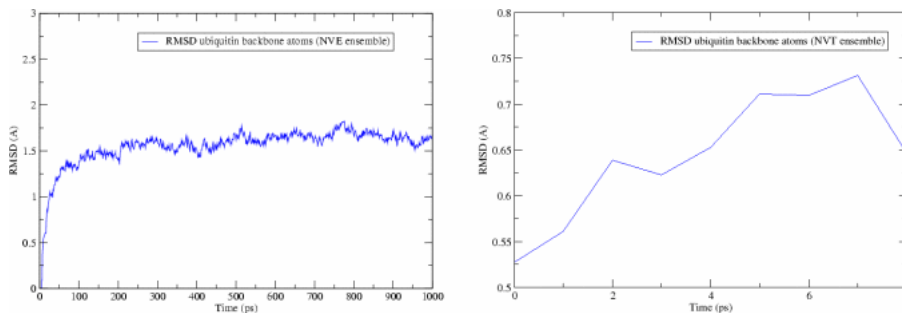

Figure 8: RMSD versus simulation time for a system equilibrating with a longer run time(left) and your system (right)
- 10 Use xmgrace to plot the file `rmsd.dat`. In the Unix Terminal window, type `xmgrace rmsd.dat`. The curve does not reveal very much information because of short runtime and infrequent writing of the dcd file. Figure 8 shows a more typical RMSD plot for an equilibrated system along with the plot you have generated. Can you see the first RMSD curve flattening? This means the system is equilibrated.